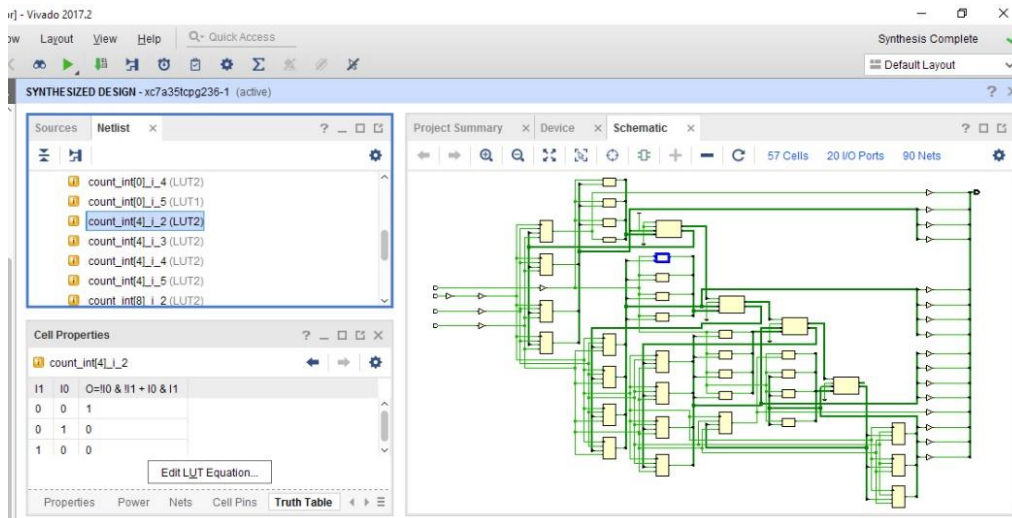

Figure 20
5. For example, by selecting one of the Look-Up Tables (LUT) we have access to the truth table it implements; choose the **Truth Table** tab available on the **Cell Properties** window in the left side of our **Schematic** window, just below the **Netlist** window, and we may even edit the LUT equation by clicking on **Edit LUT Equation...** (Figure 20)